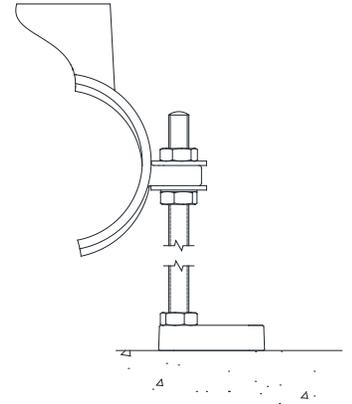

Figure 17
2. With the assembly positioned upright, secure the anchor stabilizer to the fitting using the anchor foot assembly instructions and hardware provided. Ensure the anchor foot sits level on the floor and nuts are tightened for each carrier. See Figure 17.